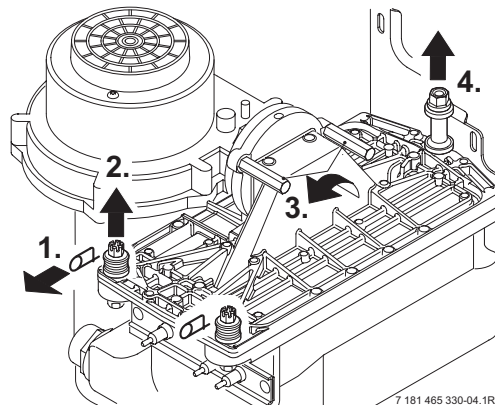

Fig. 49
- Remove the clips (1) and unscrew the two bolts (2). Refer to fig. 49.
- Unscrew and remove the two hexagon screws securing the fan (3).
- Slacken fully the rear securing bolt (4).